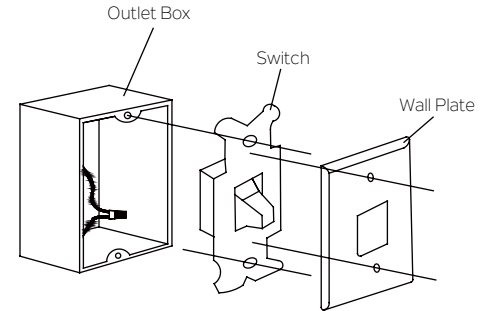

Fig. 27
Step 1. Remove the existing wall plate and the old switch from the wall outlet box. Wire nut the BLACK leads (hot) together and push back inside the outlet box. (Fig. 27) or select the desired location with a new wall outlet box.